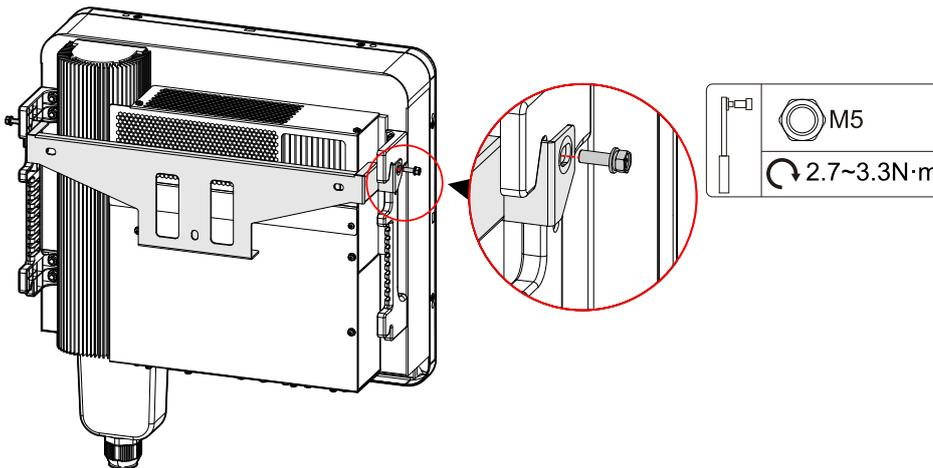

Figure3-14 Fasten the inverter
Step 6 Fasten the inverter to the installation holder by the equipped stainless steel combination bolt M5*16 and then lock it, as shown in Figure3-14.